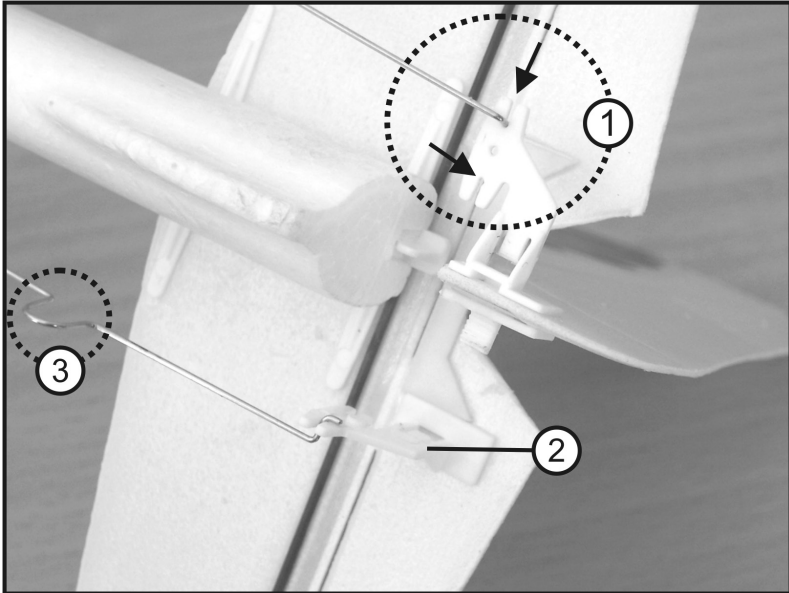

Figure 11
If the rudder and elevator are not aligned precisely in the middle position of the trim on the transmitter, the bend in the linkage wire may be used to precisely align the rudder or elevator (as shown in figure 11, item 3). The bend can be compressed or expanded as required. Use small long-nose pliers or tweezers and work with the required dexterity.
→ Figure 11, item 1 (rudder) or figure 11, item 2 (elevator) shows the linkage wire connected at the outside of the rudder horn. Experienced pilots who would like to increase deflection at the rudder or elevator may connect the linkage wires attached to the outside at the inner position (see arrow). Use long-nosed pliers for this and proceed with care to avoid damage to the model.